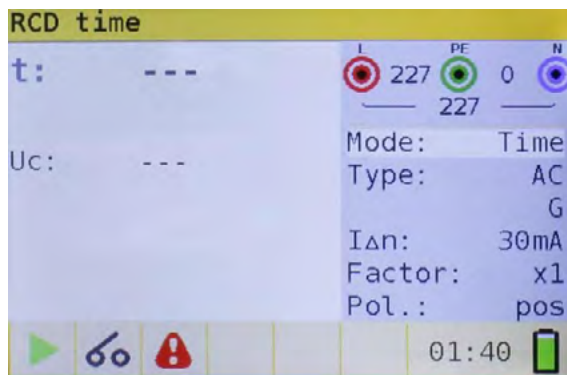

Figure 5.15: Trip-out time measurement menu
Step 3 Connect the leads to the instrument and follow the connection diagram shown in figure 5.15 (see section 5.3.6 contact voltage) to perform trip-out time measurement.
Step 3 Connect the test leads to the instrument and follow the connection diagram shown in figure 5.15 (see section 5.3.6 Contact voltage) to perform trip-out current measurements.
Step 3 Connect the test leads to the instrument and follow the connection diagram shown in figure 5.15 (also see section 5.3.6 Contact voltage) to perform the RCD autotest.